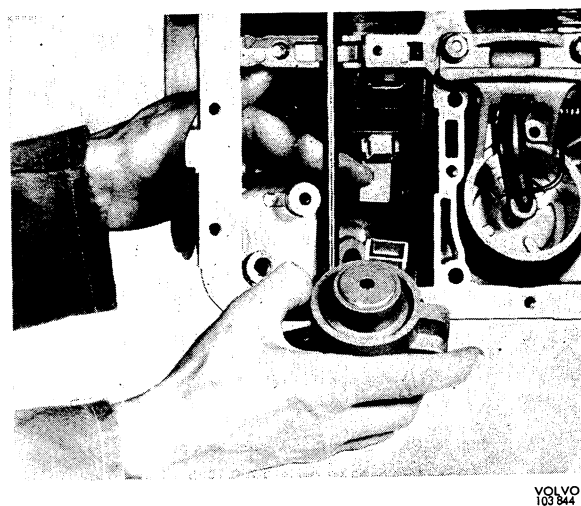

Fig. 4-98. Installing front servo and strut
11. Place the front brake band in position, see Fig. 4-98. Stick the strut to the servo lever with vaseline.